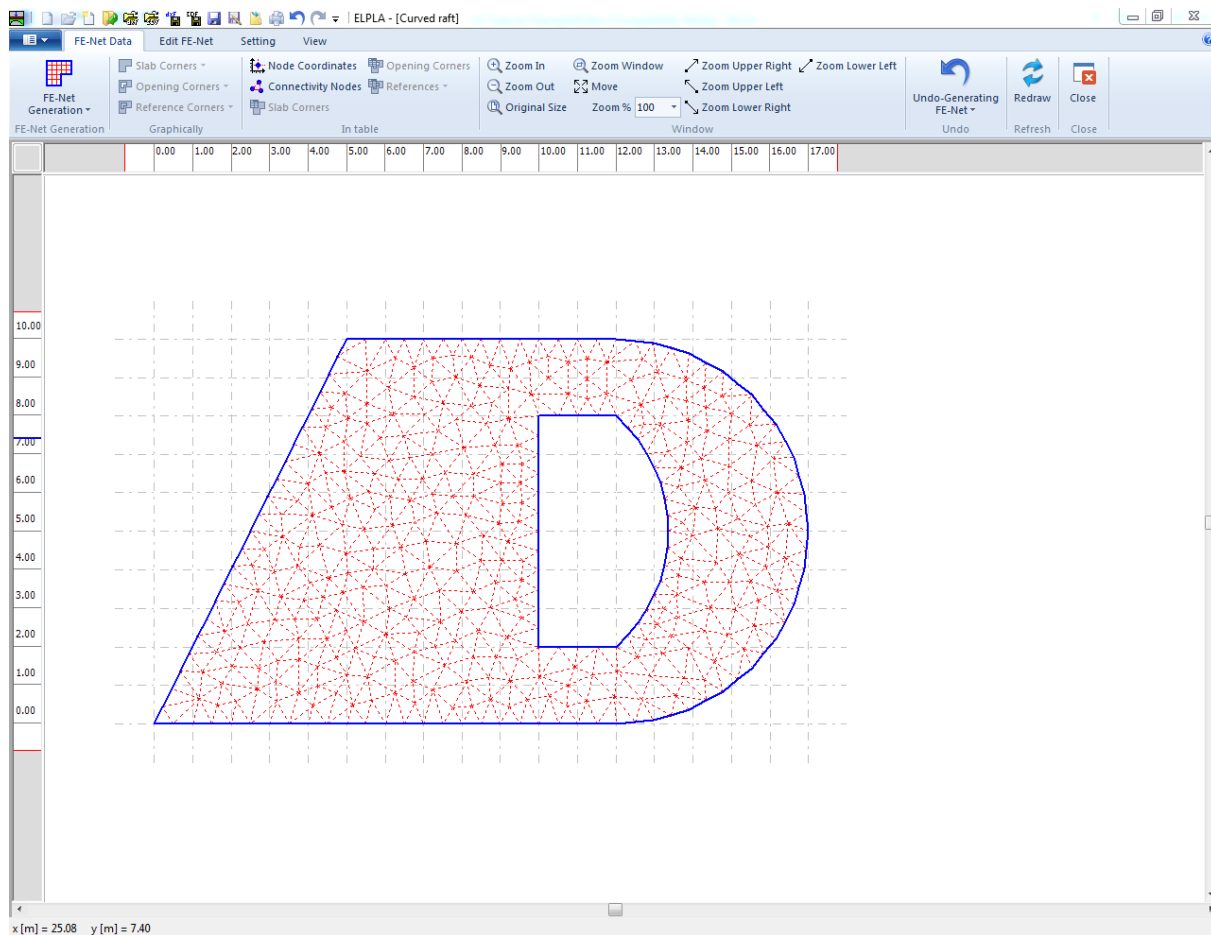

Figure 10.19 Final FE-Net of the raft
After clicking the "OK" button, FE-Net generation progress menu appears in which various phases of the generation are progressively reported. After finishing the generation of the FE-Net and creating the raft FE-Net as shown in Figure 10.19, do the following two steps:
- Choose "Save" command from "File" menu in Figure 10.19 to save the data of the FE-Net
- Choose "Close" command from "File" menu in Figure 10.19 to close the "FE-Net" Window and return to *ELPLA* main window